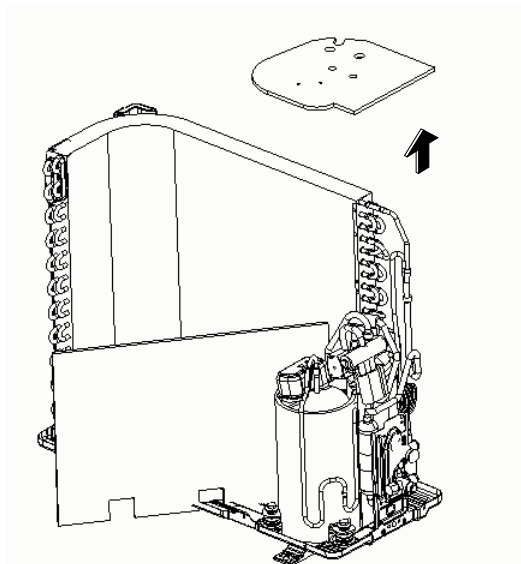
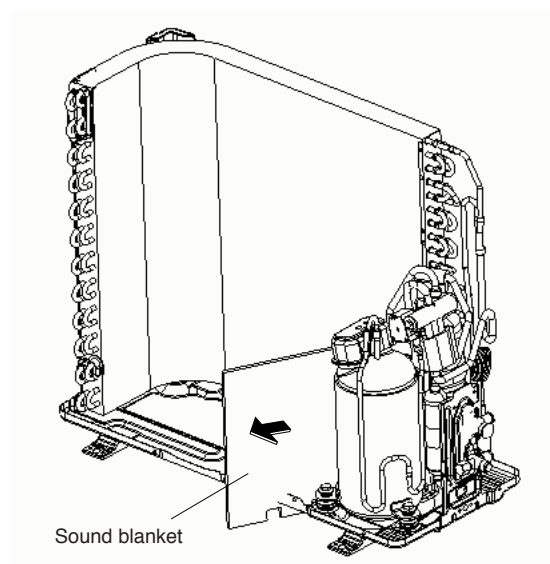

Fig. 61
Fig. 62
- (1) Lift and remove the sound blanket (top). (Fig.61)
- (2) Unite the strings and open the sound blanket.
- (3) Lift and remove the sound blanket (body) as it is opened.
- (4) Pull the sound blanket out. (Fig.62)